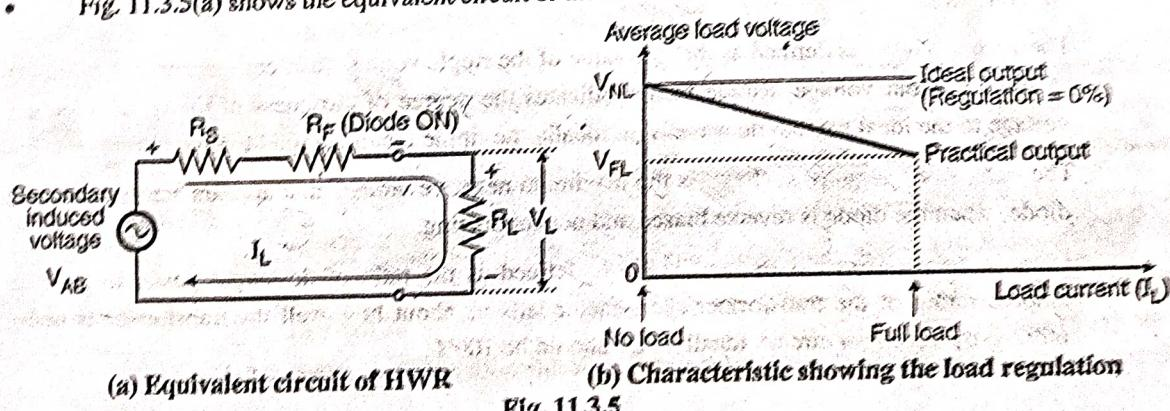

Fig. 11.3.5
- Fig. 11.3.5(a) shows the equivalent circuit of the half wave rectifier.
- Due to reduction in the load resistance R_L , load current I_L will increase. This will increase the voltage drop across $(R_S + R_F)$ as shown in Fig. 11.3.5(a).
- If the secondary voltage is constant, then V_{LDC} will decrease with increase in the load current, as shown in Fig. 11.3.5(b).